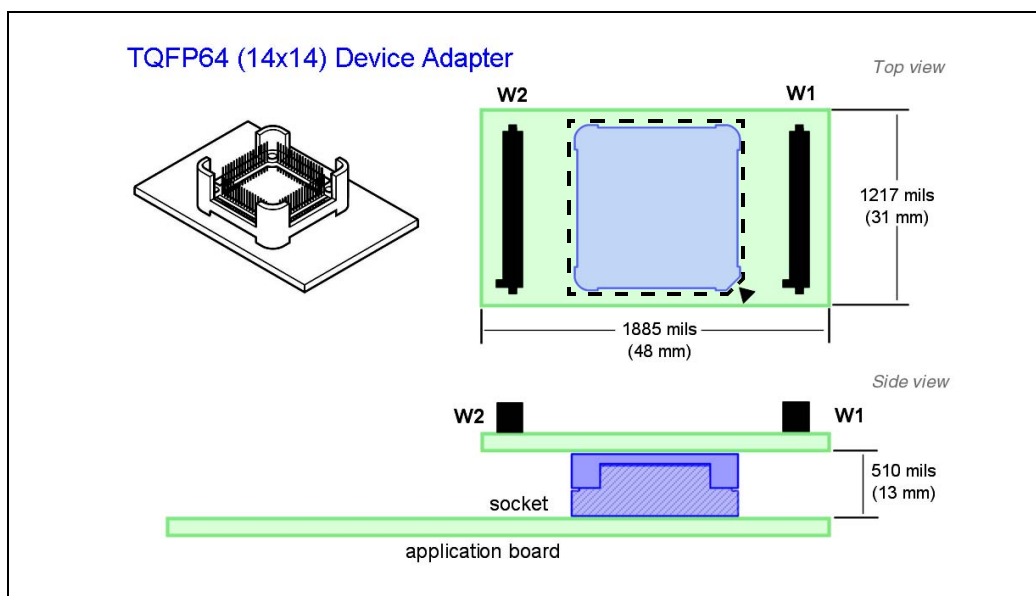

Figure 5: Device adapter critical dimensions
- 1 Solder the TQFP64 (14 x 14) socket on to your application board in place of your MCU. Keep in mind, when designing your application board you should ensure that there will be enough room to accommodate the device adapter (Ref.: DB543), which will connect to the socket in place of your MCU (see Figure 5).